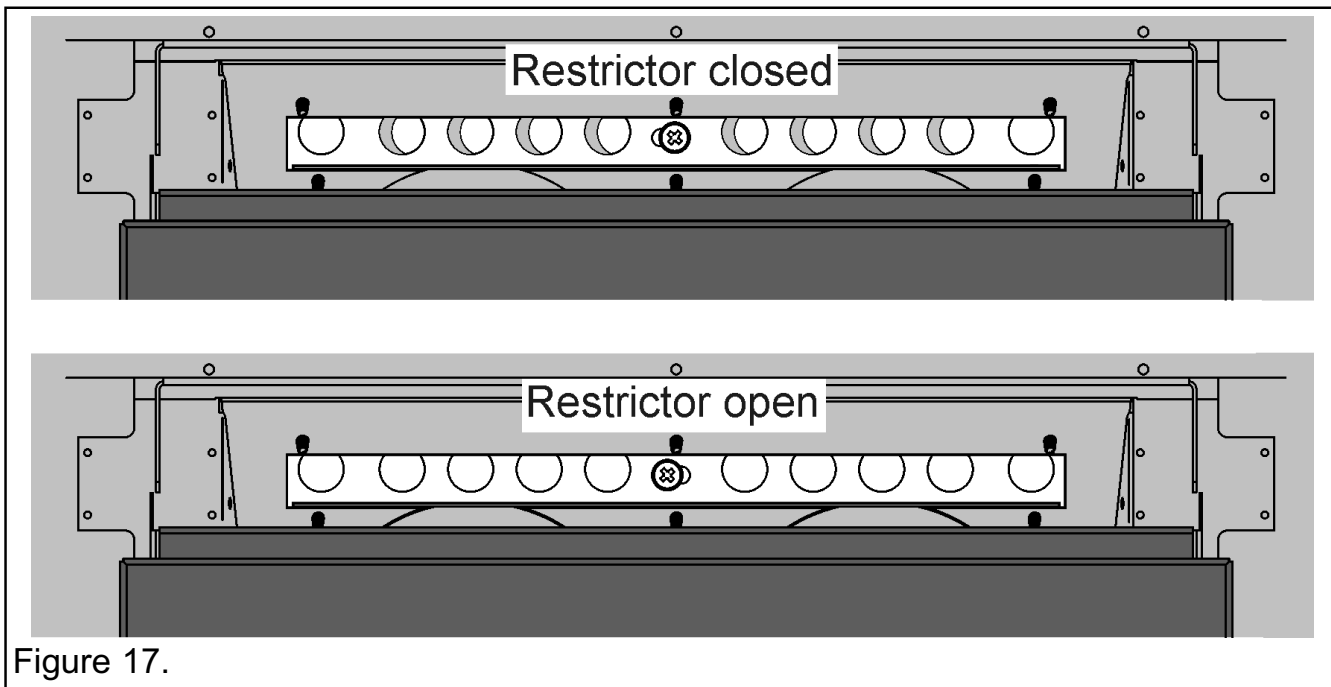

Figure 17.
The restrictor is supplied in the fully open position and can be adjusted. To adjust the restrictor, locate the central screw at the rear of the convected air outlet (See figure 17). Loosen the screw and with the screw driver still in the head of the screw, slide the restrictor to the desired position. Secure the restrictor by tightening the screw.
6. The installation is satisfactory if the smoke is drawn into the appliance. If the smoke is not drawn into the appliance, leave the appliance alight at the maximum setting for a further ten minutes and then repeat the test. If smoke is still not drawn into the appliance, inspect the sealing to the fireplace surround. If the sealing is satisfactory but the appliance is installed with the flue restrictor (See section 9.3), adjust the restrictor to the fully open position. To adjust the restrictor, locate the central screw at the rear of the convected air outlet (See figure 17). Loosen the screw and with the screw driver still in the head of the screw, slide the restrictor to the desired position. Secure the restrictor by tightening the screw. Retest the fire. If smoke is still not drawn into the appliance, disconnect the appliance and seek expert advice.